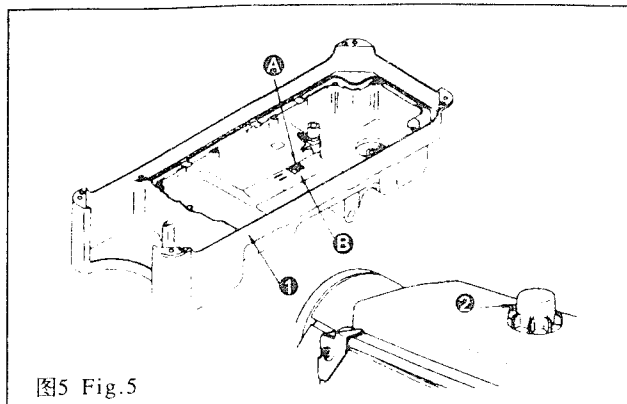
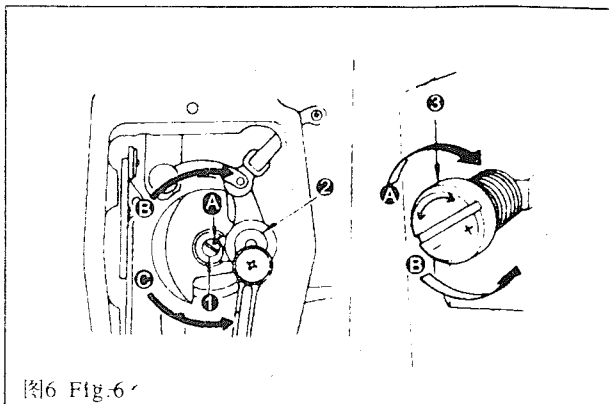

图5 Fig.5
图6 Fig.6
1. 机器的润滑(图5、图6)
1. LUBRICATION (Fig.5, Fig.6)
1. 润滑须知: (图5)
- 1) 向油盘①内加缝纫机油(10号白油)至HIGH记号部位A。(图5)
- 3) 加油后, 开动机器, 应看到油液飞溅到油窗②上, 说明润滑正常。
2. 调节面部油量: (图6)
3. 调节旋梭油量: (图6)
1. Information on lubrication (Fig.5)
2. Adjusting the amount of oil supplied to the face plate parts (Fig.6)
3. Adjusting the amount of oil supplied to the the hook (Fig.6)